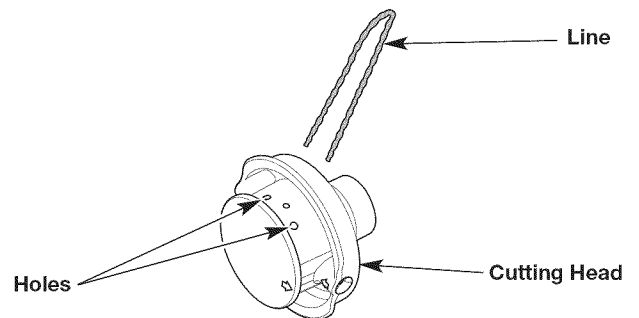
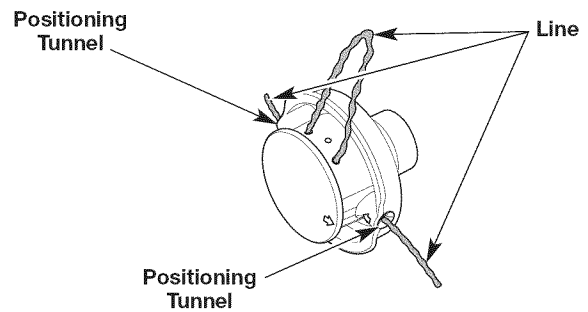

Fig. 18
Fig. 19
3. Insert the ends of the new trimming line into the holes in the cutting head (Fig. 18). Push the line through the holes until both ends protrude from the positioning tunnels (Fig. 19).